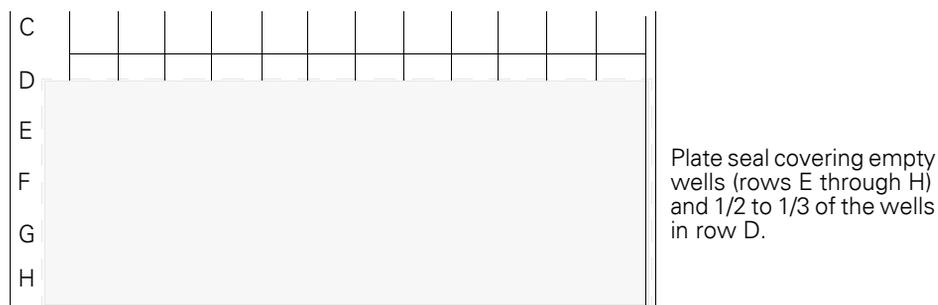

Figure 4.9 Sealing Empty Wells on the Filter Plate
3. Tightly seal the unused wells with a MicroAmp Clear Adhesive Film (Figure 4.9). To ensure a tight seal, cover 1/2 to 1/3 of the wells in row D as well. Unused wells *must be sealed* to ensure proper vacuum pressure.